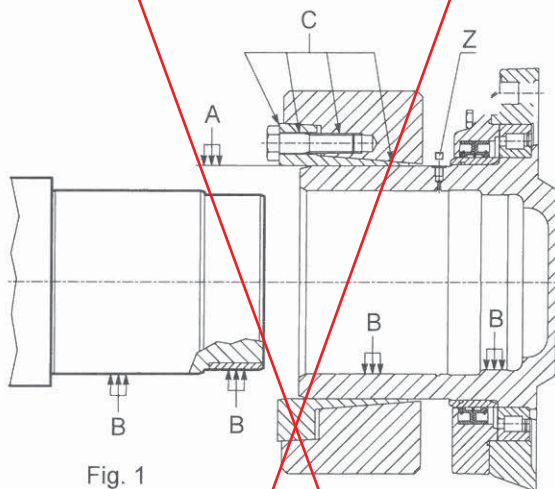

Fig. 1
- Lubricate the coupling housing (fig. 1 point A).
- If the coupling is being overhauled, disassemble it and grease the zones marked "C" (see fig. 1).
- Remove cap "Z" (see fig. 1) in order to bleed off the air when fitting the shaft.
- Fit the coupling on to the gear unit without tightening the bolts, leaving cap "Z" loose (see fig. 1).